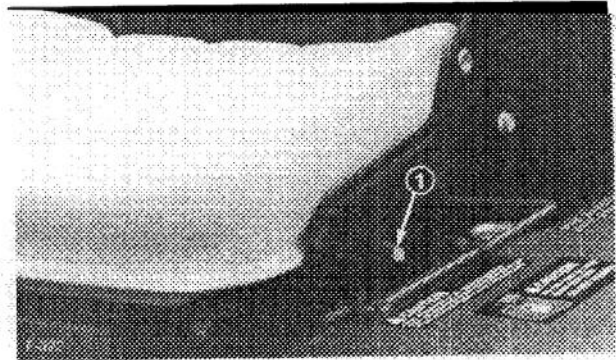

Figure 25
**Seat Adjusting Levers (Fig. 25)** — To adjust standard seat, push lever backward and slide seat to the desired position. Release lever to lock seat in place. The suspension seat may be adjusted forward or rearward by pulling out the lever at the right side of the seat, sliding the seat to the desired position, and releasing the lever. The weight adjustment knob may be adjusted for any operator's comfort.